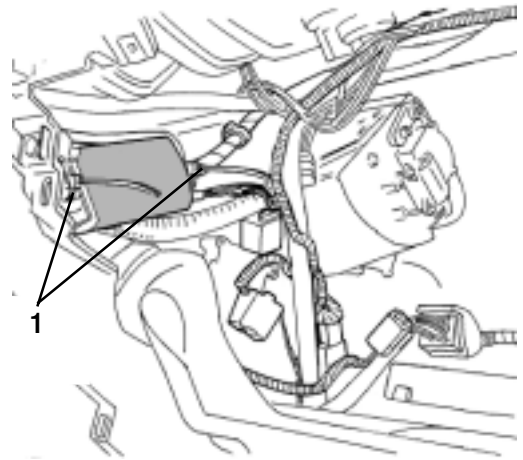

FIGURE 37
5. USING THE TWO MOUNTING HOLES ON THE SIDES OF THE FM MODULATOR SECURE THE FM MODULATOR TO THE HARNESS LOCATED ON THE RIGHT SIDE OF THE RADIO OPENING ABOVE GLOVE BOX USING 2 THIN TIE WRAPS (1). (SEE FIGURE 37)